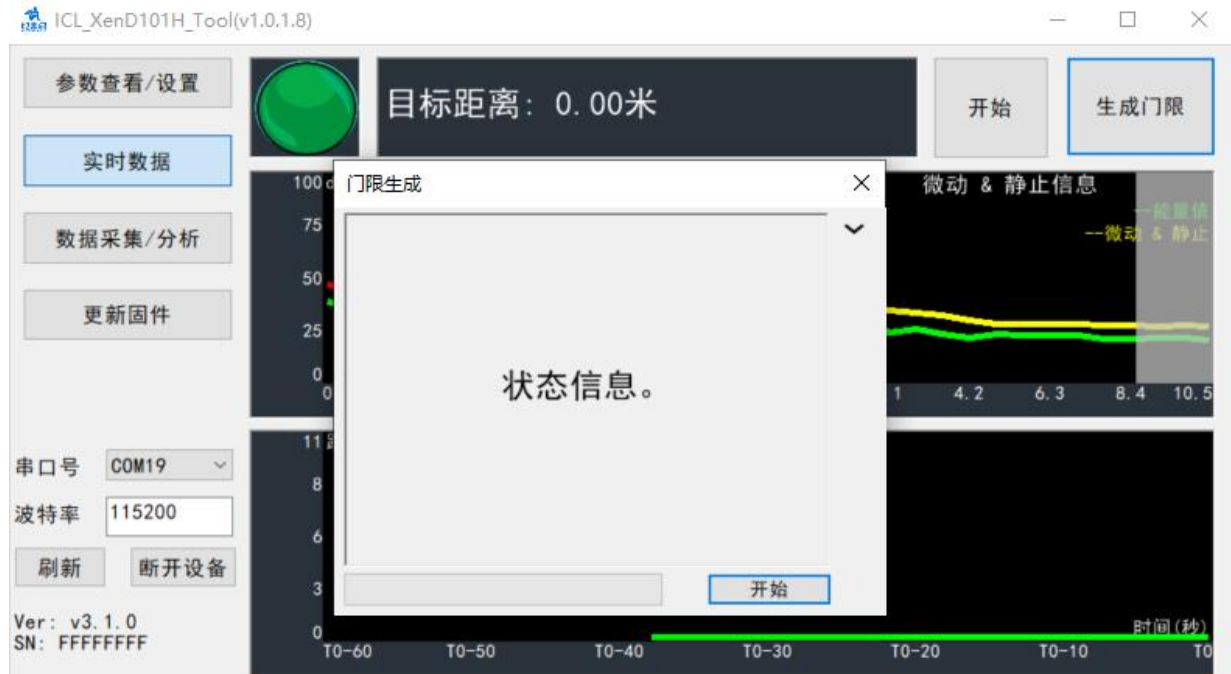

Figure 1-4 Threshold acquisition
1. When the Start/Pause button on the Live Data page displays "Pause", click the "Generate Threshold" button, the host computer tool will pop up the "Threshold Generation" information window, as shown in Figure 1-4.